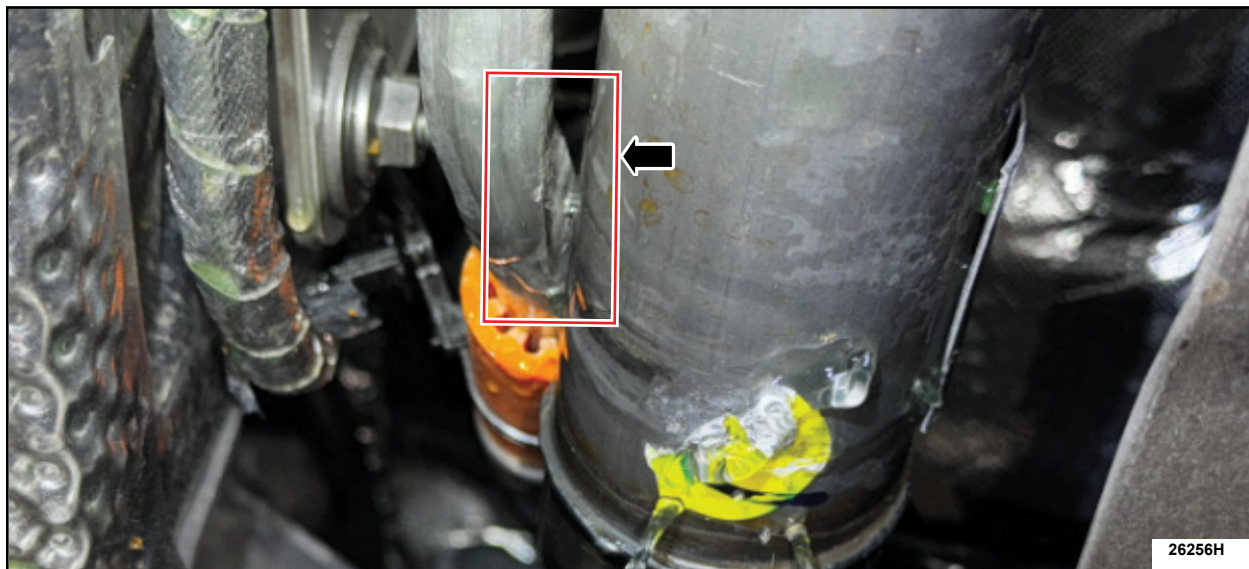

FIGURE 5
4. Visually inspect the push-pin retainer **and** the transmission fluid cooler coolant hose for damage such as chafing and/or leaks. See Figures 5 and 6.